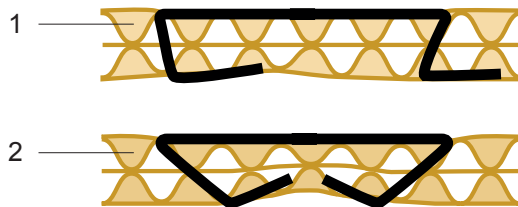

Fig. 10
Each plier is tested carefully before delivery. By rough treatment during operation the anvil therefore might need to be adjusted. Uncorrect clenching may then occur (Fig. 10/1).
- Make a test-stapling in a piece of carton. If the anvil is correct adjusted the clinch should be like in (Fig. 10/2).